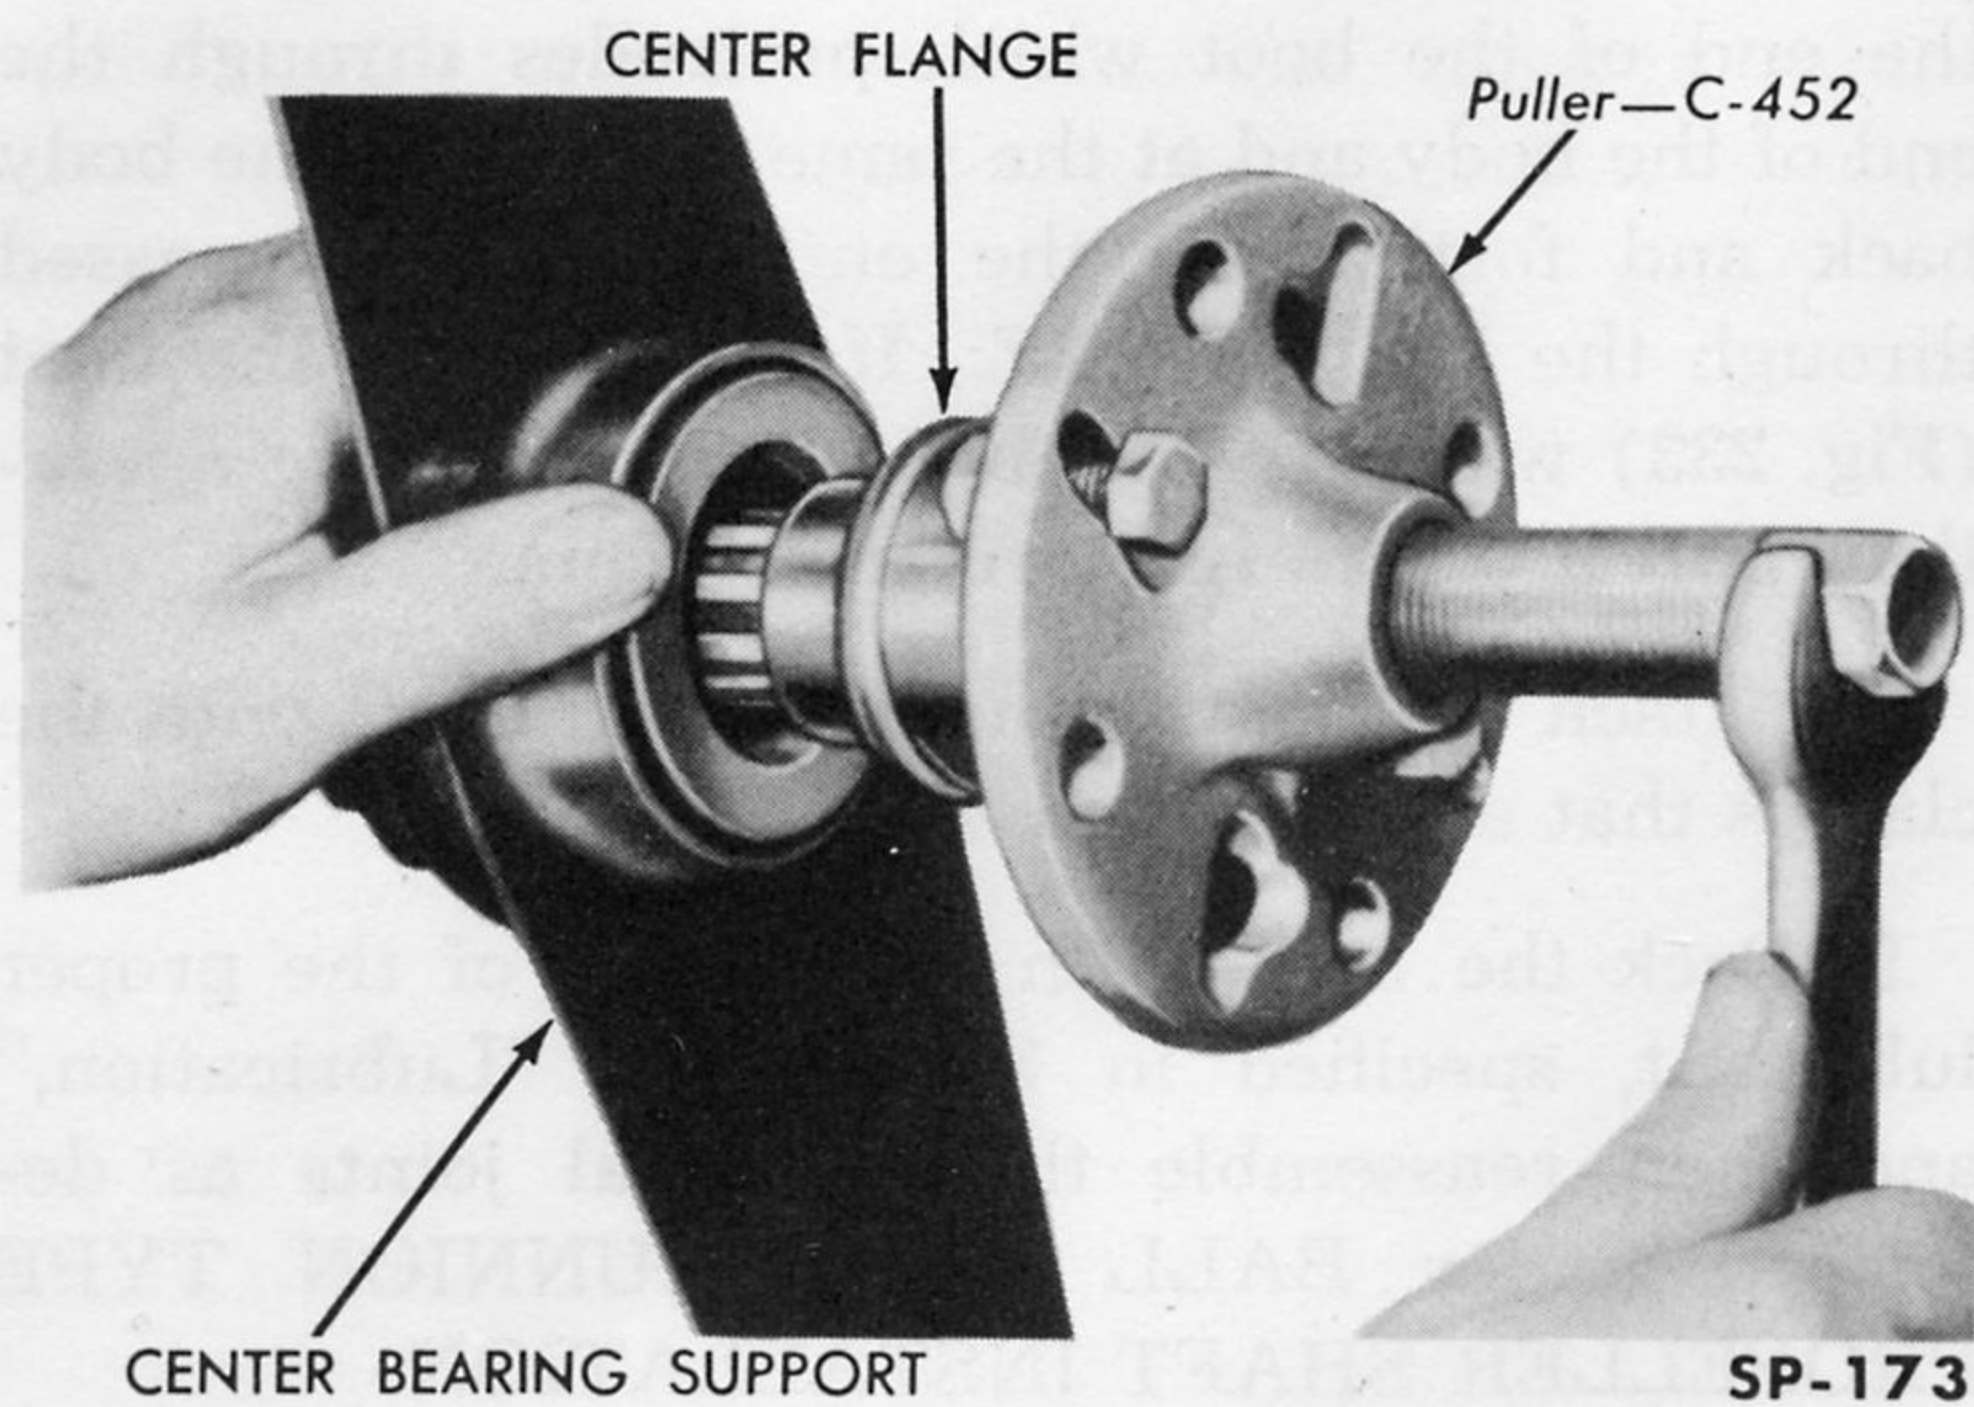

Fig. 234—Removing Center Flange
2. Remove the center flange from the shaft using Universal Joint Flange Puller C-452 (Fig. 234).